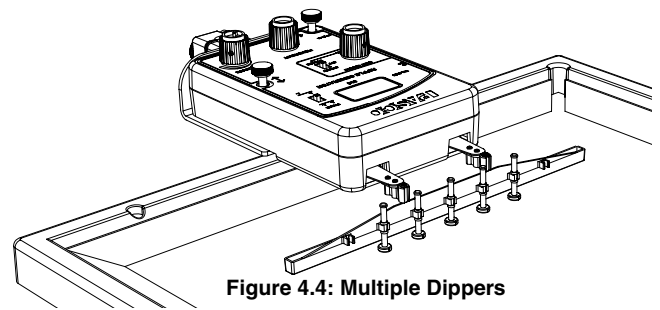

Figure 4.4: Multiple Dippers
**Five Point Sources** Put two more standard dippers into the clips on the plane wave dipper so that all five dippers are evenly spaced (see Figure 4.4). Repeat the procedure as for three point sources.